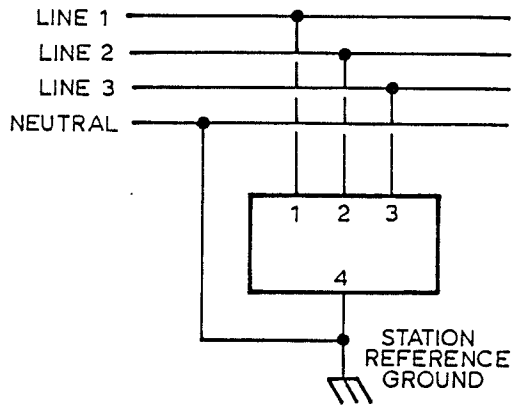

Figure 1 - 3-Phase, 4-Wire
7. Figures 1 thru 4 show the required interconnections between the ac power lines, the surge protector and the station reference ground, and are referenced directly in table 1.